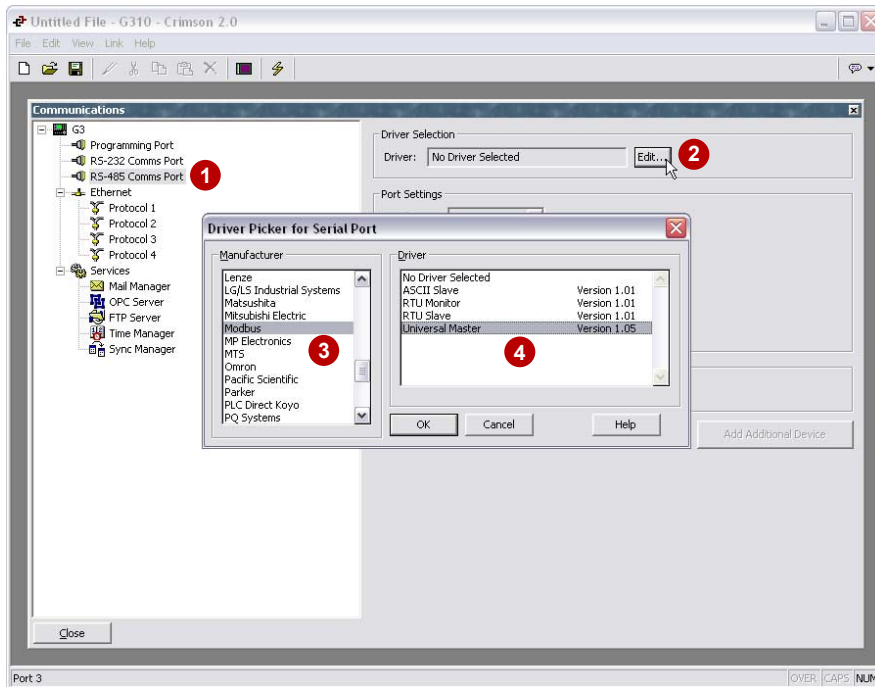

Figure 2
4. Select Modbus Universal Master as shown in Figure 2